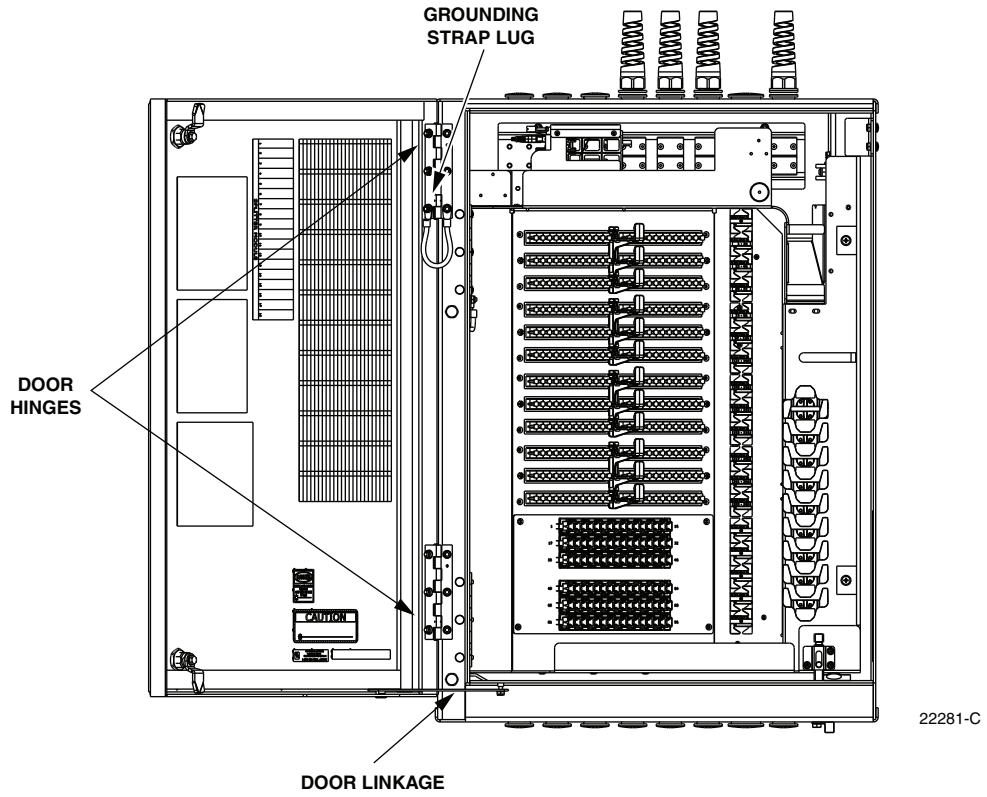

Figure 62. Door Replacement
1. Open the cabinet door and lock it in the open position as shown in Figure 62.
- ▶ **Note:** Be sure to re-secure the grounding strap lug (see Figure 62) to the door when securing the hinges to the door.